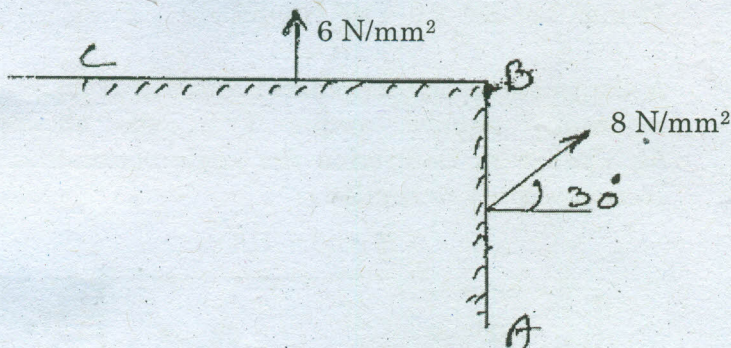

Fig. Q. 16(a)
16. (a) The intensity of resultant stress on a plane AB (Fig. Q. 16(a)) at appoint in a materials under stress is 8 N/mm^2 and it is inclined at 30° to the normal to that plane. The normal component of stress on another plane BC at right angles to plane AB is 6 N/mm^2 . Determine the following :
- (iii) The maximum shear stresses. (15)